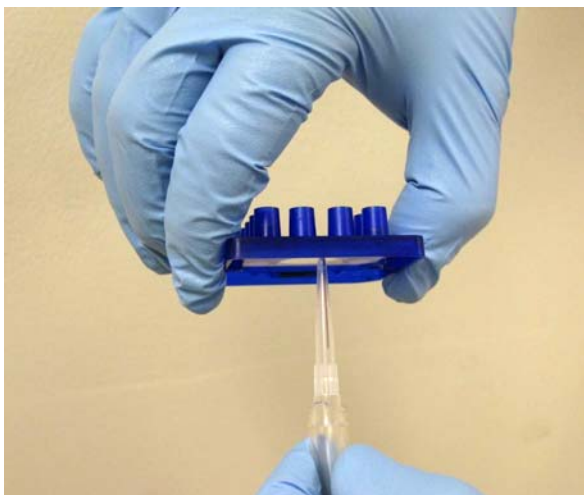

Figure 23. Removing an air bubble or clog by suctioning the sipper with a vacuum line.
- If air bubbles are not dislodged after a reprime, apply a vacuum to the sipper. Perform this by filling all active wells with 100 μ L of Chip Storage Buffer. Then suction the sipper with a vacuum line as shown in Figure 23 until droplets of fluid flow out from the sipper. When suctioning the sipper, be careful not to bend or break the sipper. To facilitate this, cut the end of the pipette tip attached to the vacuum line to widen the mouth.